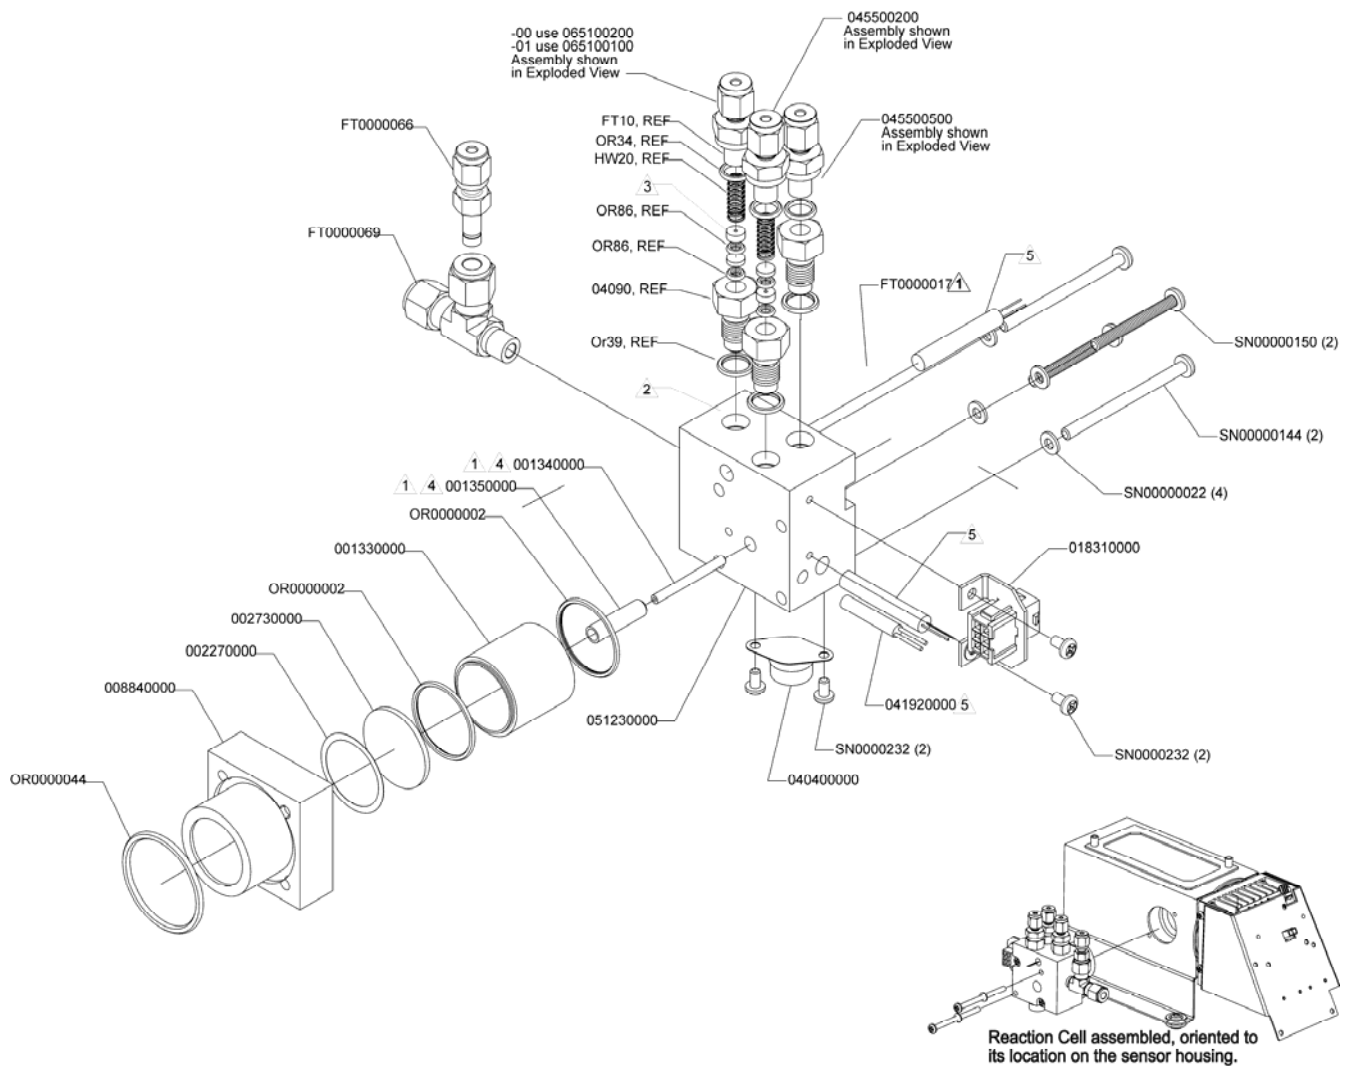
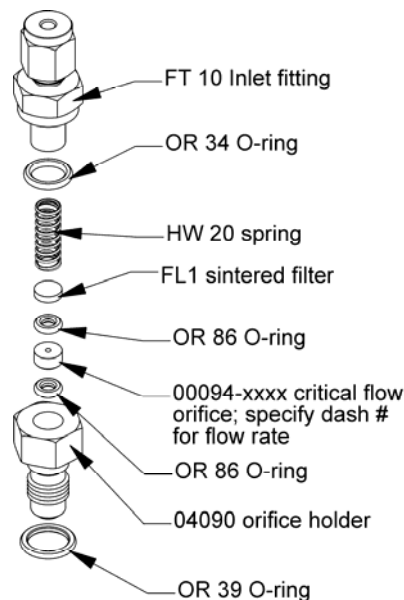

Figure 6-4: Reaction Cell Assembly
Figure 6-5: Critical Flow Orifice Assembly
1. Turn off the instrument power and vacuum pump. Refer to Figure 6-4 for the following procedure.
3. Remove four screws holding the reaction cell to the PMT housing and lift the cell and manifold out as shown in the inset of Figure 6-4.
There are several critical flow orifices installed in the T200H/M, Figure 6-4 shows one of the two most important orifice assemblies, located on the reaction cell. Refer to Section 8.3.3 for a detailed description on functionality and locations. Despite the fact that these flow restrictors are protected by sintered stainless steel filters, they can, on occasion, clog up, particularly if the instrument is operated without sample filter or in an environment with very fine, sub-micron particle-size dust.
1. Turn off power to the instrument and vacuum pump. Remove the analyzer cover and locate the reaction cell (Figure 3-7 for location in chassis, and Figure 6-4 for exploded view of assembly).
3. For orifices on the reaction cell (Figure 6-4): Unscrew the orifice holder with a 9/16" wrench. This part holds all components of the critical flow assembly as shown in Figure 6-5. Appendix B contains a list of spare part numbers.
4. For orifices in the vacuum manifold: the assembly is similar to the one shown in Figure 6-5, but without the orifice holder, part number 04090, and bottom O-ring OR34 and with an NPT fitting in place of the FT 10 fitting.
7. Re-assemble the flow control assembly with new the parts (see Appendix B for part number or replacement kit) as shown in Figure 6-5 and re-connect them to the reaction cell manifold or the vacuum manifold.